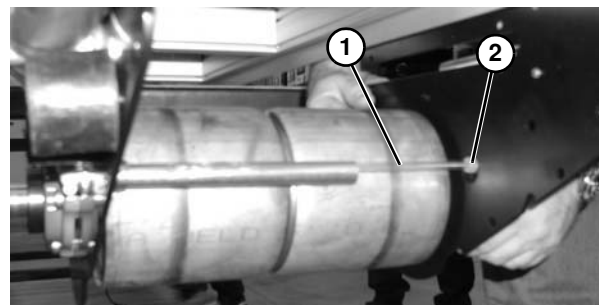

Figure 171
7. Disconnect flexible air hose (**Figure 171, item 1**) from fitting (**Figure 171, item 2**).